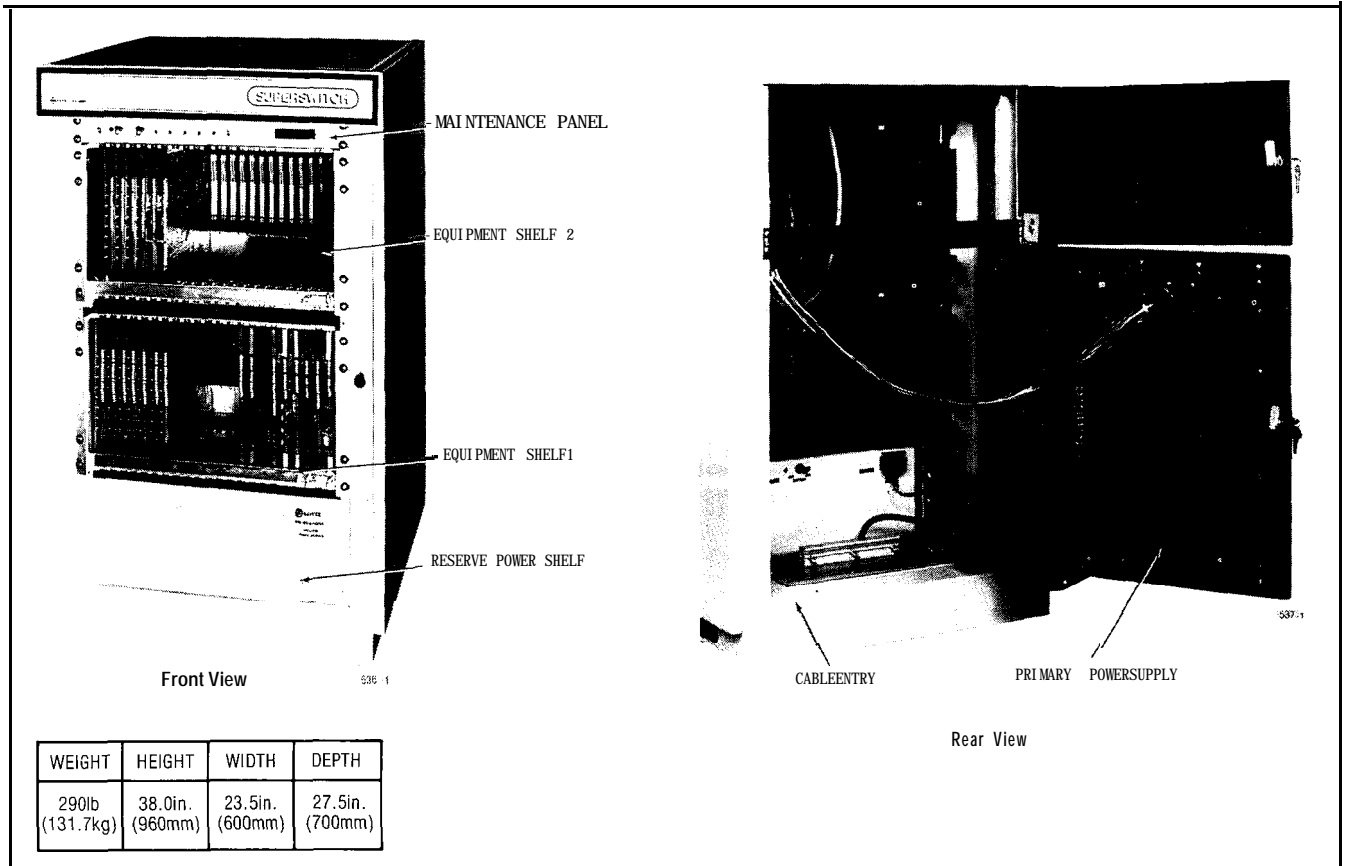

Fig. 2-3 Equipment Cabinet
2.08 The SX-200 equipment cabinet (Fig. 2-3) is of welded steel construction and measures 38in. (960mm) high, 23.5in. (600mm) wide, and 27.5in. (700mm) deep. A fully equipped cabinet weighs approximately 290lbs (131.7kg). The door on the front of the cabinet provides access to the system maintenance panel, printed circuit cards and reserve battery supply shelf. The hinged rear panels hold the system power supply and provide access to the line and trunk connectors and the reserve power controls. Cable entry to the equipment cabinet is provided through cable ducts on either side of the cabinet.